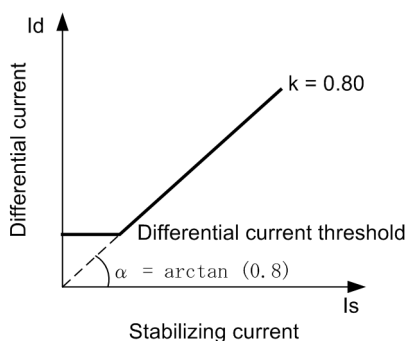

Figure 7-12 Trip characteristic of the busbar protection
- Repeat the checking with a different constant current  $I_1$ . The Trip characteristic graph is shown in Figure 7-12, page 311.
- ❑ Repeat the test with different constant currents  $I_1$ . The trip characteristic graph is shown in Figure 7-12, page 311.